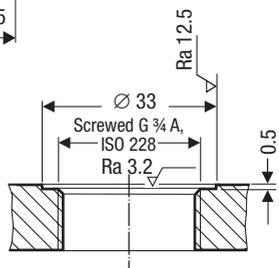

Fig. 4
- The seating surfaces of the standpipe or the flange provided on the vessel must be accurately machined, see **Fig. 4**.
1. Check seating surfaces. **Fig. 4**
2. Place supplied joint ring **5** onto seating surface of the threaded standpipe or flange. **Fig. 4**